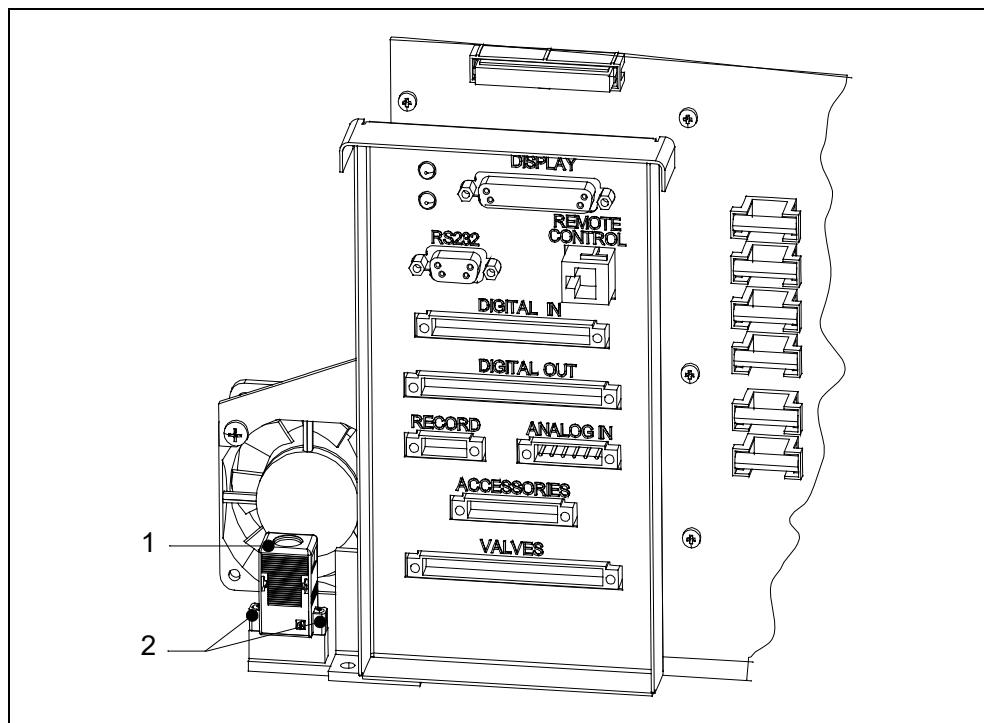

Fig. 7-7 I-STICK replacement
- To replace the I-STICK, loosen the two screws with which the I-STICK is screwed on the socket. See Fig. 7-7 below for more information.